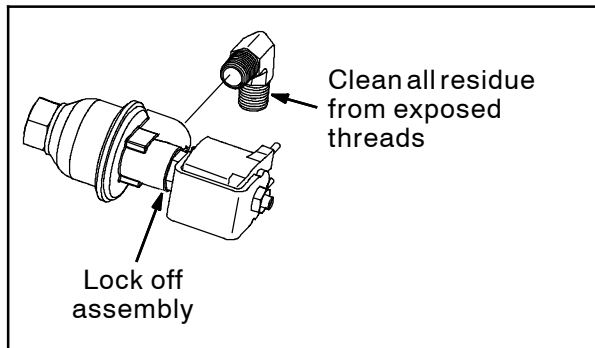

FIG. 13
- Use Loctite® 7649 to clean all residue from the threaded portion of the lock off assembly fitting previously attached to the defective vaporizer. (Fig. 13)
- Apply a coat of Loctite 567 thread sealant onto the exposed threaded portion of the fitting on the lock off assembly. (Fig. 13)